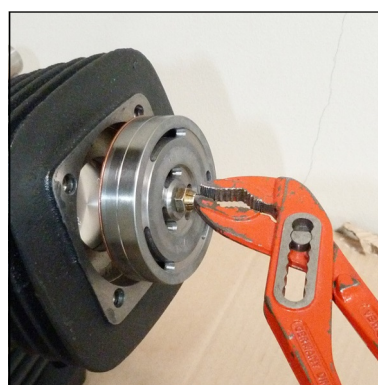

Fig. 2 - Pull out inlet and outlet valve
- Pull out inlet and outlet valve (Fig. 2). CAUTION: Observe that the lower copper valve ring is also pulled out. (It can still stick inside the cylinder)